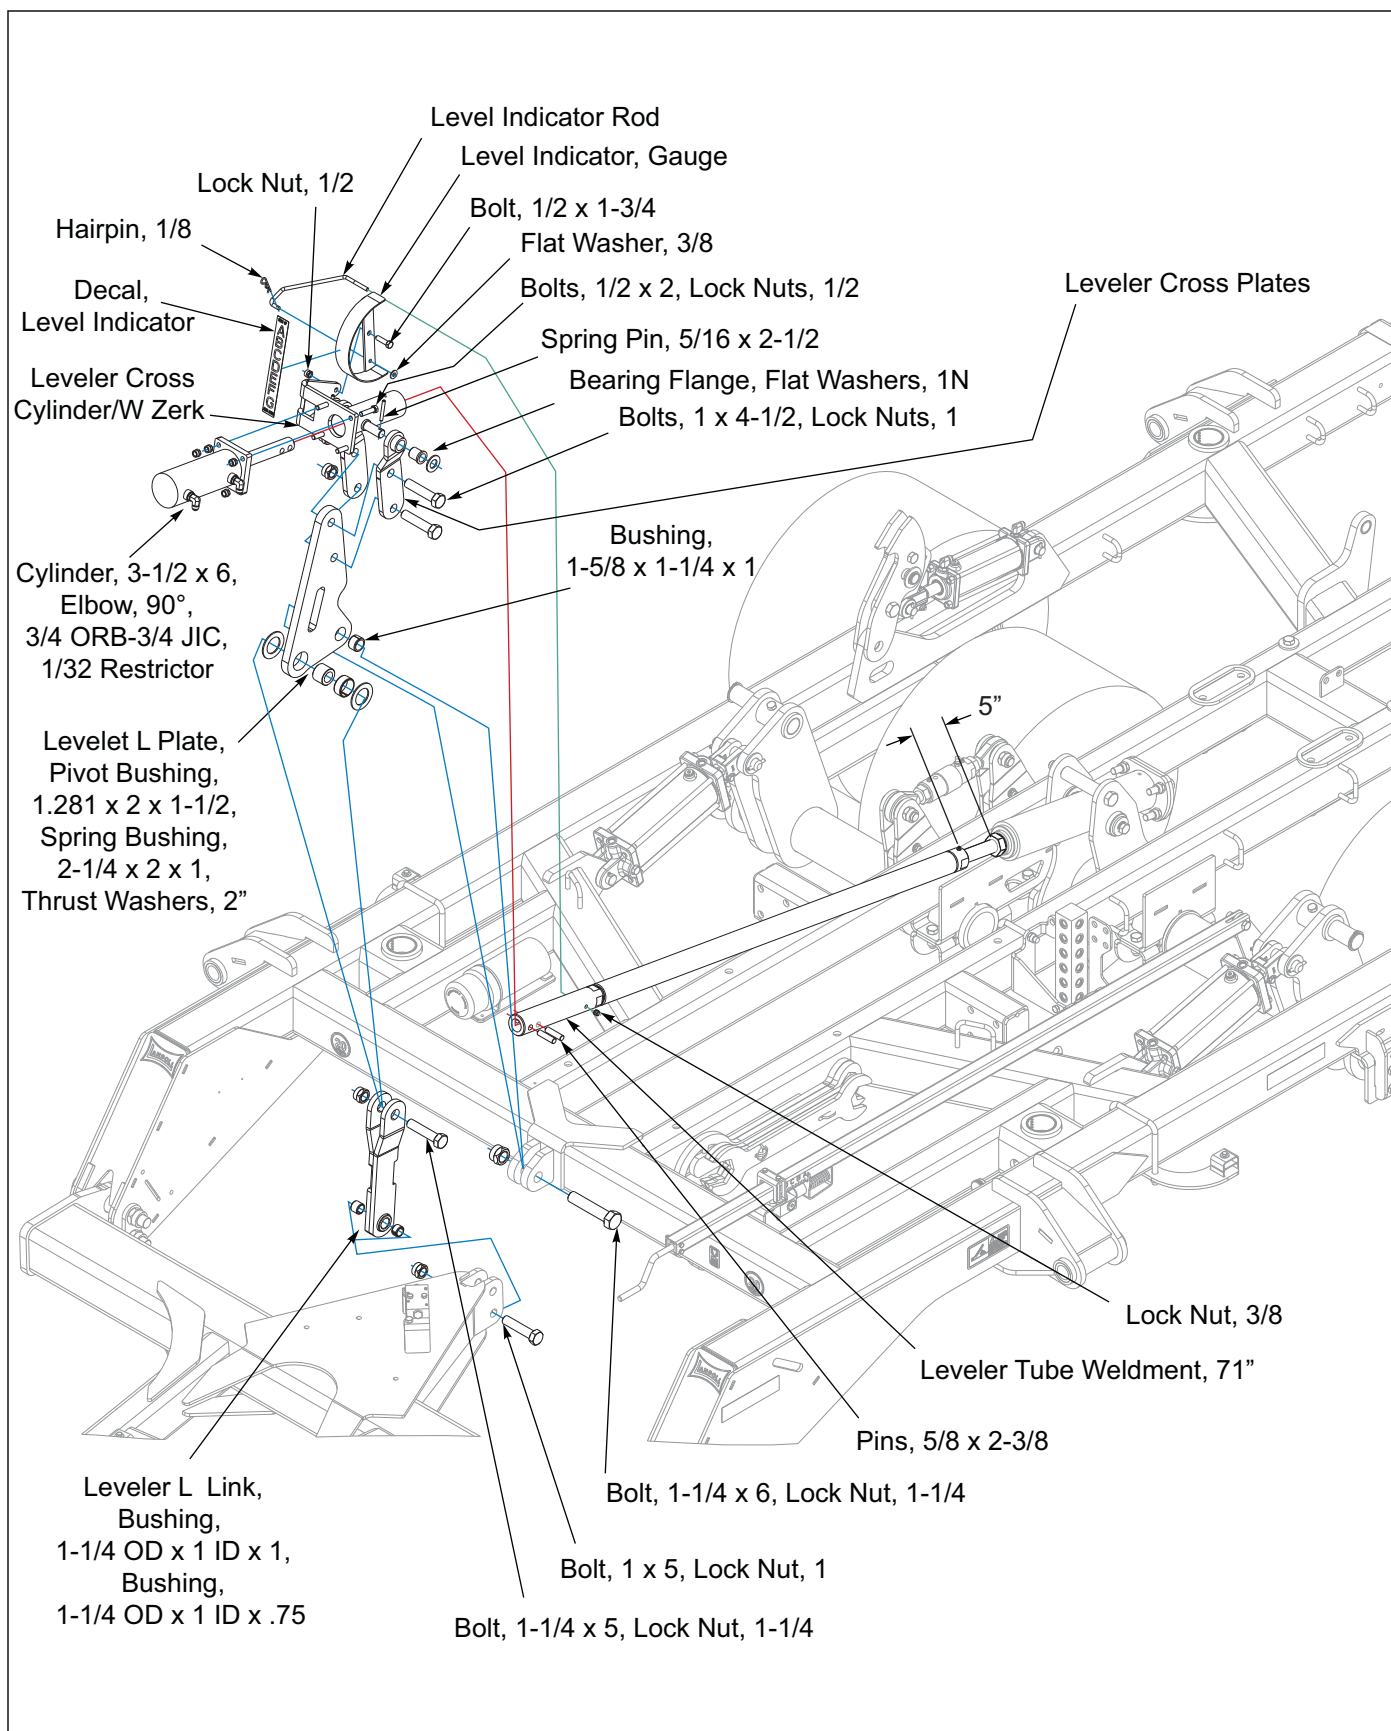

Figure 3-4: Leveler Assembly Installation
1. Be sure the 1-1/4 OD x 1 ID x 1 and 1-1/4 OD x 1 ID x3/41 bushings are in the leveler I link See Figure 3-4.
5. Slide leveler cross cylinder/w zerk over front end of the 71" leveler tube weldment until 2 holes are through plate See Figure 3-4. Slide the 3-1/2 x 6 cylinder onto front end of 71" leveler tube weldment until the 2 holes in cylinder are aligned with 2 holes in 71" leveler tube weldment and slide the 5/8 x 2-3/8 pins through aligned holes. Slide leveler cross cylinder assembly back through until plates on two cylinders are aligned and secure with 1/2 x 2 bolts and 1/2 lock nuts.
9. Attach level indicator as shown See Figure 3-4.